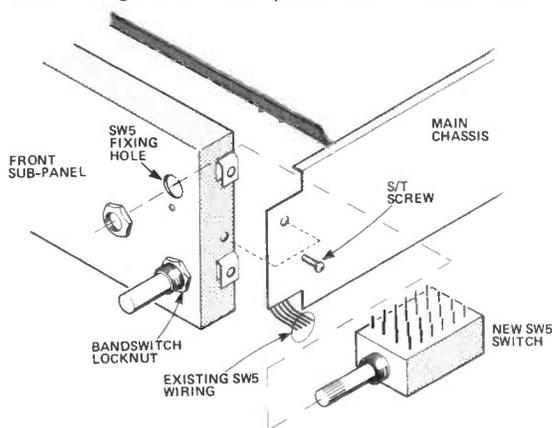

Figure 3: Wiring of new memory switch.
15. Wire the switch as shown in **Fig. 3**.